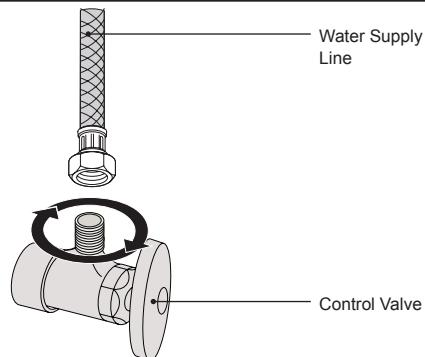

Figure 17
- ① Connect the water supply line to the water control valve normally located behind and to the left when facing the toilet (Figure 17).
- ② Turn the water on slowly and check for any leaks.
- ③ If any leaks are noted, shut the water OFF and retighten all connections. Turn the water back ON.
- ④ Flush the toilet and continue to check for leaks. It is a good idea to check for leaks for 3 or more days after installation.